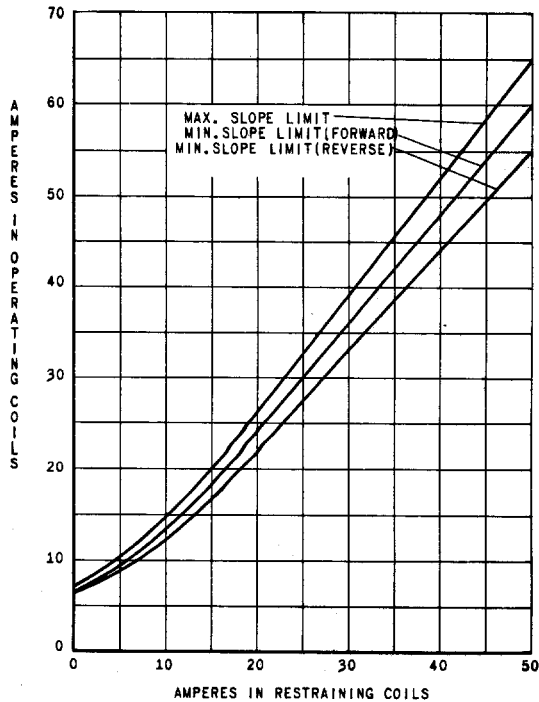
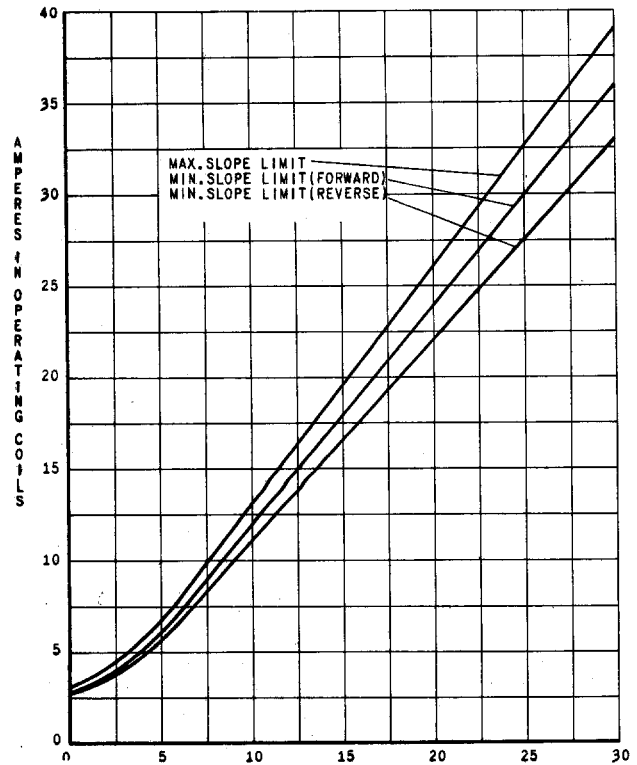
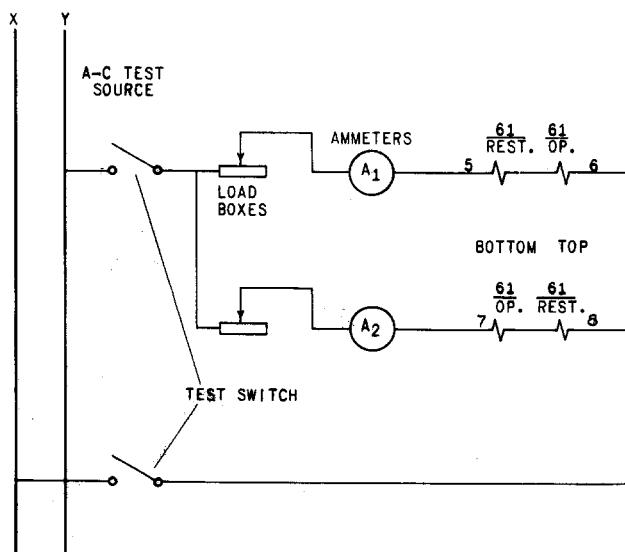

Fig. 2 Pickup Characteristics of Type CFCB11A Phase Relays
Fig. 3 Pickup Characteristics of Type CFCB11A Ground Relay
Fig. 7 Field Testing Connections for Type CFCB11A Relays
The pickup characteristics of the Type CFCB-11A phase relay are shown on the curves of Fig. 2. Note that the minimum pickup is 7 amperes with zero restraint current. The term "forward" used on the pickup curves indicates a condition in which currents flowing from stud 5 to stud 6 and from stud 7 to stud 8 are in phase. If the current flowing through one of these circuits is reversed (180° out of phase) then the curves marked "reverse" apply.
The corresponding pickup characteristics of the Type CFCB11A ground relay are shown on the curves of Fig. 3. Note that the minimum pickup for the standard ground relay is 3 amperes with zero restraint current.
The Type CFCB11A current balance relays for the balancing of phase currents have a pickup of 7 amperes with a slope of 125%. These relays are continuously rated at 7 amperes. The Type CFCB-11A relays for balancing ground currents have a pickup of 3 amperes with a slope of 125%. These relays are continuously rated at 3 amperes. Figs. 2 and 3 show the relay characteristics for the phase and ground relays, respectively.
The test circuit of Fig. 7 can be used for the pickup current test, with ammeter A2 reading zero for a test of the top unit, and ammeter A1 reading zero for a test of the bottom unit.
The term "slope" is applied to that ratio of operating current to restraining current at which pickup occurs. At low values of operating current the restraining effect of the control spring causes the operating characteristic to depart from a straight line and to flatten out to the pickup value at zero restraining current. The slope, therefore, is practically attained only when the electrical torques are high enough to cause the spring restraining torque to become negligible. Figs. 2 and 3 show the slope characteristics of the Type CFCB11A relay and the effect of the control spring at low values of current.
- (1) Set up a test circuit according to Fig. 7.
- (2) Before closing the test switch pull out the connecting plug. This removes the relay coils from the test circuit and completes the test circuit through the shorting bars on the drawout case.
- (3) Close the test switch and adjust the currents in ammeters A1 and A2 so that the test point falls inside of the limits shown on Fig. 2 for phase relays or on Fig. 3 for ground relays. Note that ammeter A1 reads the operating current for the top unit and the restraining current for the bottom unit, while ammeter A2 reads the operating current for the bottom unit and the restraining current for the top unit.
- (4) Open the test switch and replace the connecting plug. After the plug is in place close the test switch and the element under test should pick-up.
- (5) Repeat steps (2), (3), and (4) using a decreased value of operating current so that the operating point falls just below the limits shown on the curves of Fig. 2 or 3. The curve marked "Min. Slope Limit (Forward)" applies when the current flowing from studs 5 & 6 is in phase with the current flowing from studs 7 & 8. The curve marked "Min. Slope Limit (Reverse)" applies when these same currents are 180 degrees out of phase.
- (6) Repeat steps (2), (3), (4), and (5) for as many operating points as are necessary to establish
the proper slope over the calibration range indicated on Fig. 2 or 3. The maximum calibrating restraining current for phase relays is 50 amperes, for ground relays, 30 amperes.
(7) If a readjustment of the slope is indicated by the above tests the slope adjusting resistor (See Fig. 3.) may be changed to provide the proper correction. This resistor has a maximum slope position on either side of which the slope decreases. The only requirement for setting this resistor is that the operating characteristic shall fall within the limits indicated on Fig. 2 or 3, within the calibrating currents indicated on these figures.
Recommended test connections for the above tests are shown in Fig. 7.
An operation test and inspection of the relay at least once every six months are recommended. Test connections are shown in Fig. 7.